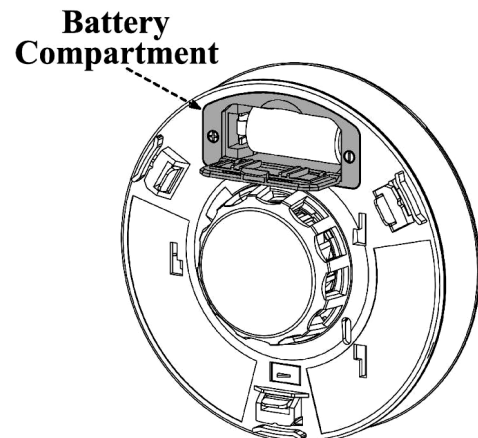

Fig. 8: Battery compartment location
7. Battery Installation (see **Fig. 8**):